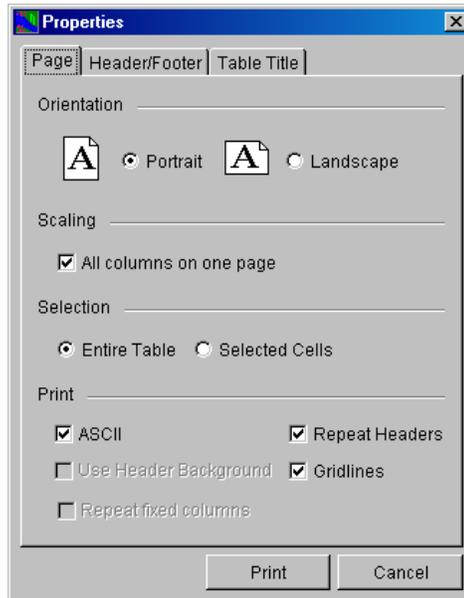

Figure 2.26 Printing Properties, Page Tab
- The Print **Properties** dialog box will open (Figure 2.26).
- From the **Page** tab (Figure 2.26), you can set the orientation (default is Portrait), make the report columns fit on one page, print the entire table (default) or print selected cells, repeat headers on subsequent pages, and display gridlines. By default the report prints in an ASCII format, if you want a screen image of the report, unclick ASCII and the report will print with any shading that you see on the report.
3. The **Properties** dialog box (see Figure 2.26) will appear.